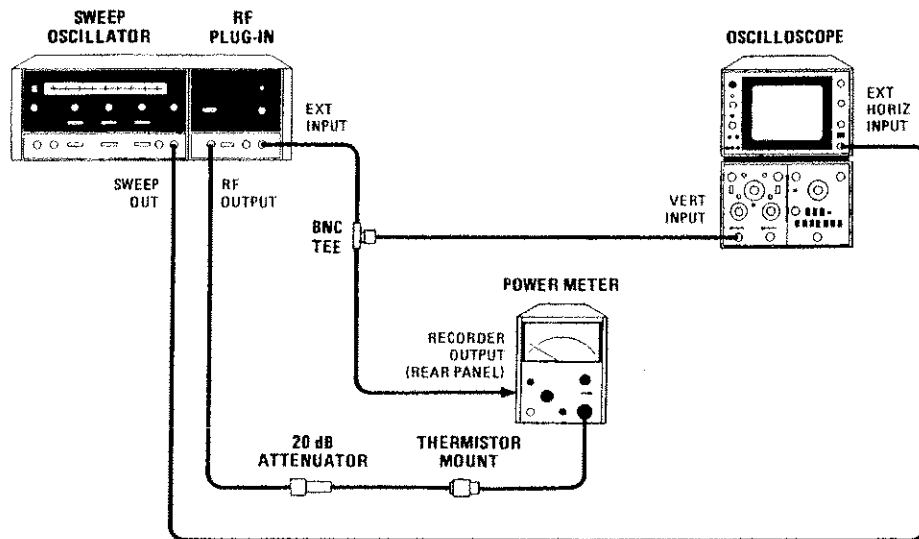

Figure 4-8. Power Meter Leveling Test Setup
- h. Connect equipment as shown in Figure 4-8.